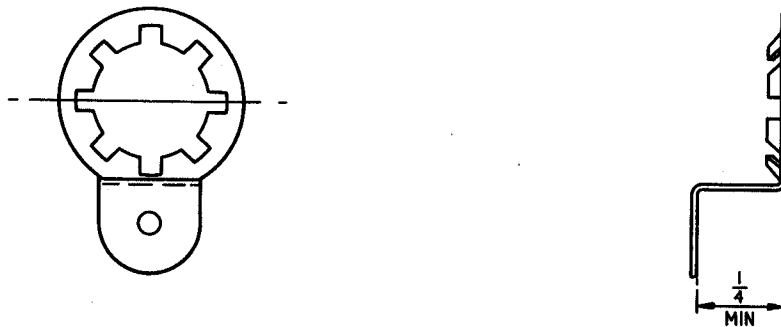

Fig 2 - Amplifier r.f. (dimensions in inches)
- (1) SWA2 pin 9 to transformer T10 pin 2.
- (2) SWA2 pin 8 to pin 8 on terminal board.
- h. Retain the 1/8 in. white sleeves on the green wire removed in g. (2) and discard green wires.
m. Strike through without obliterating the figure 2 on the modification record label of module 'L' and the figure 18 on the modification record label on the Tx/Rx panel and chassis assembly.